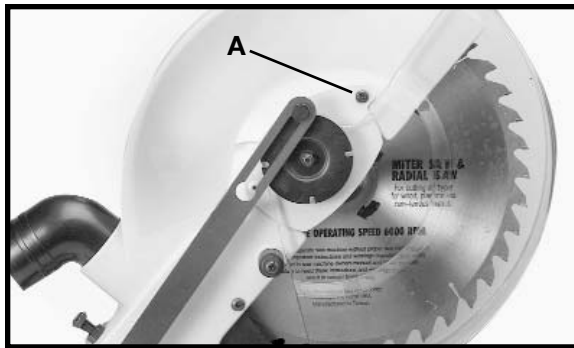
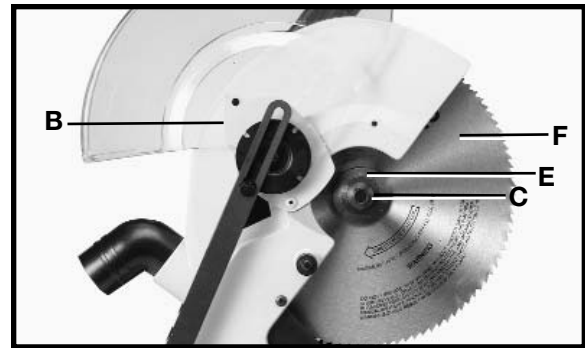
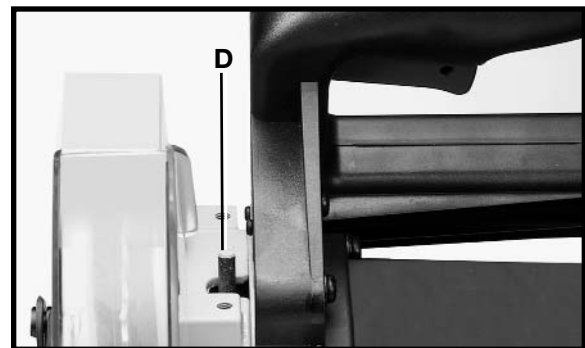

Fig. 45
Fig. 46
Fig. 47
2. Remove screw (A) Fig. 45 and rotate cover (B) to the rear (Fig. 46).
3. To remove the saw blade, PRESS IN ON ARBOR LOCK (D) Fig. 47, and use the supplied wrench to turn the arbor screw (C) Fig. 46 clockwise. Remove the arbor screw.
4. Remove outside blade flange (E) Fig. 46, and saw blade (F) from saw arbor. DO NOT REMOVE INSIDE BLADE FLANGE.
5. Attach new saw blade **MAKING CERTAIN TEETH OF SAW BLADE ARE POINTING DOWN AT THE FRONT.** Re-attach outside blade flange (E) Fig. 46, and arbor screw (C) by turning it counterclockwise. At the same time, PRESS IN ON THE ARBOR LOCK TO KEEP BLADE FROM TURNING. (D) Fig. 47.